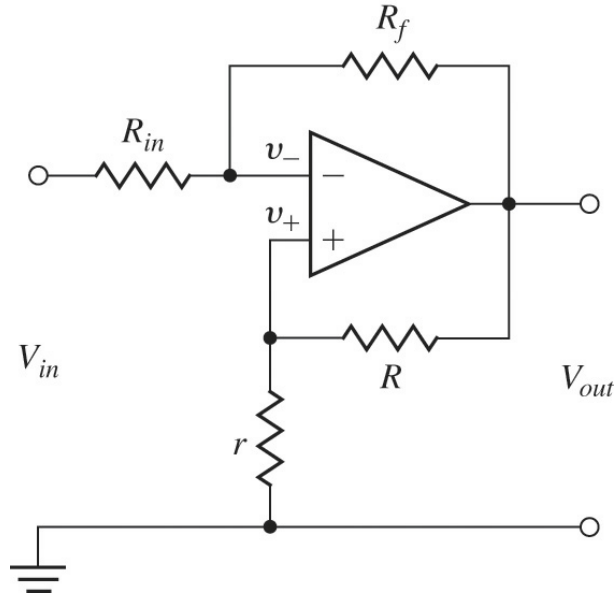

Fig. 2.53 Op Amp circuit for Problem 2.16
16. An op amp connection with feedback to both the negative and the positive terminals is shown in Fig 2.53. If the op amp has the non-ideal transfer function given in Problem 13, give the maximum value possible for the positive feedback ratio, $P = \frac{r}{r+R}$ in terms of the negative feedback ratio, $N = \frac{R_{in}}{R_{in} + R_f}$ for the circuit to remain stable.